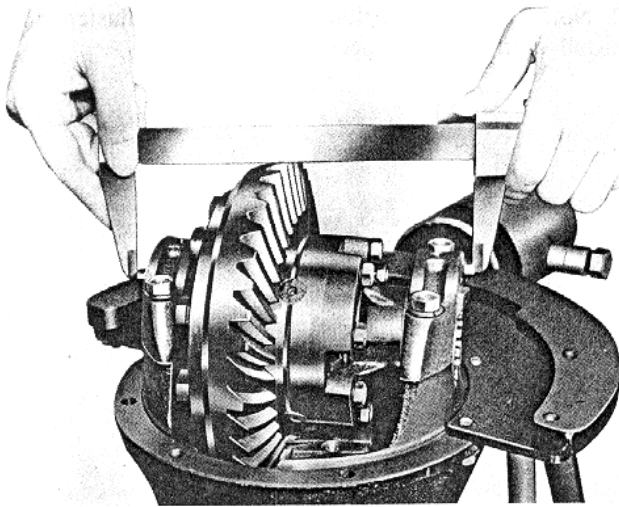

Fig. 9-35 Adjusting bearing preload (case spread)
3. The preload on the differential bearings is obtained by tightening the adjusters. Tighten the adjusters until the distance between both pilot sections on the bearing caps becomes 185.428 ~ 185.5 mm (7.3004 ~ 7.3033 in), as shown in Fig. 9-35.